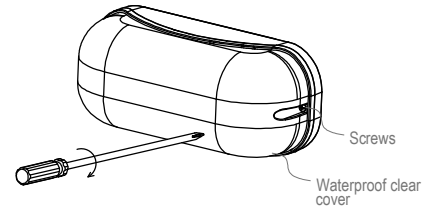

Fig. 1
1. Use a Phillips screwdriver to loosen the two screws and remove the waterproof clear cover (see Fig 1).